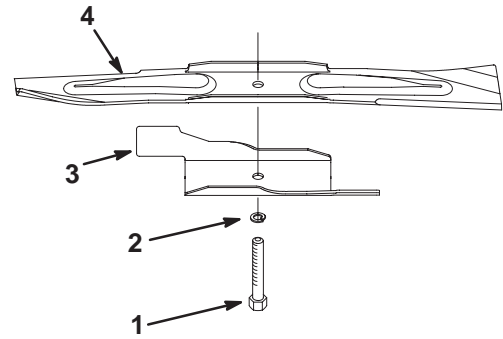

Figure 28
2. Remove the blade bolt, lock washer, blade accelerator and blade (Fig. 28).
- Install the blade, blade accelerator, lock washer, and blade bolt (Fig. 28).